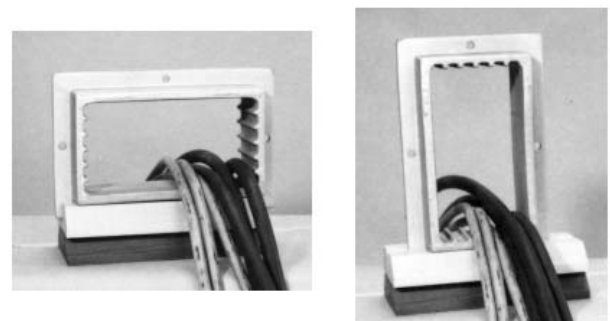

Figure 4.
2. Move cables away from immediate area of frame where first sealing block assemblies will be installed. Group cables according to their diameter and with respect to sizes of openings in TWB Sealing Block Assemblies to be installed. The diameter of openings of sealing block assemblies are in one-quarter inch increments, ranging from 0.25" (6.4mm) to 0.50" (12.7mm) through 4.25" (108mm) to 4.50" (114.3mm) and each are marked with their size range (see Figure 4).